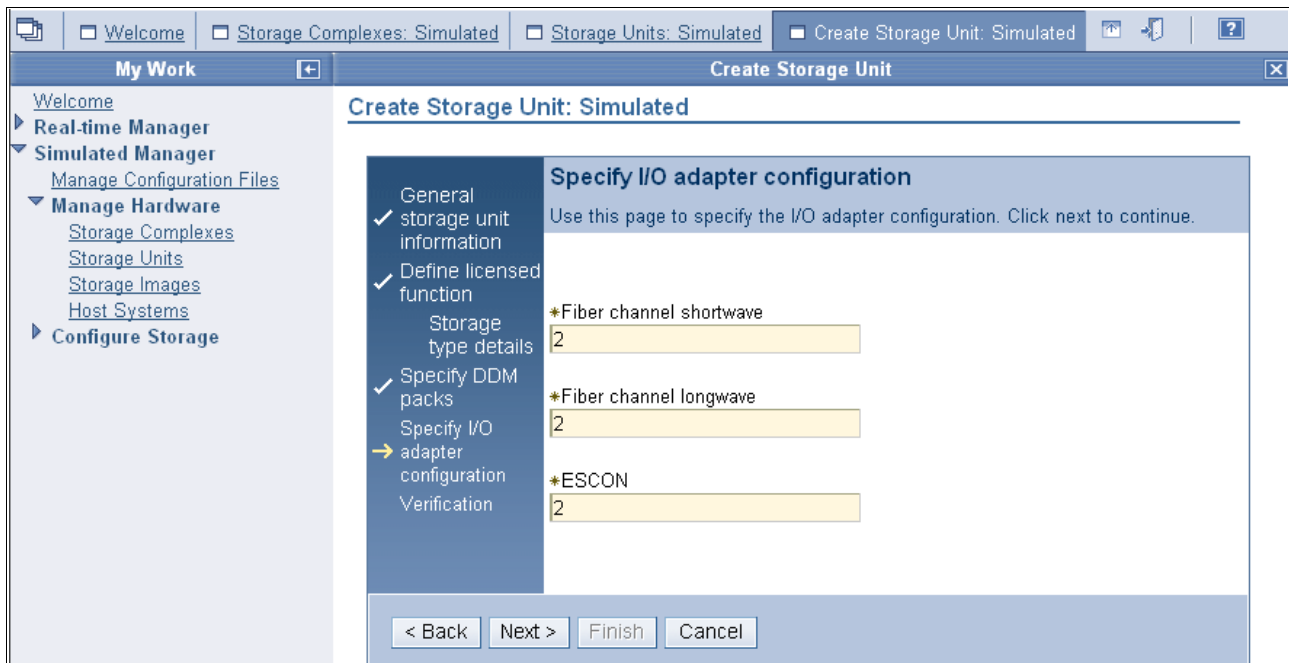

Figure 10-28 Specify I/O adapter configuration panel
- Click **Add** and **Next** to advance to the Specify I/O adapter configuration panel shown in Figure 10-28.